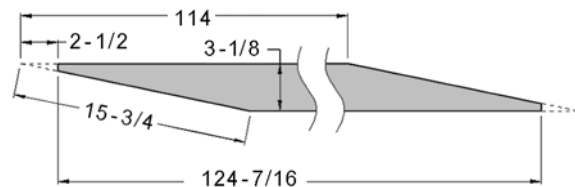

Figure 8
1. Mark and cut a taper at one end of the roll as shown in Figure 8. Because the tapered end should use all of the left (outboard) slot width, its end must be trimmed back as shown.
6. Remove the abrasive strip from the drum, and cut a taper as was done with the starting edge (see Figure 8). **Note:** The taper on the remaining roll can be used as the taper for the starting edge of the next strip to be cut.